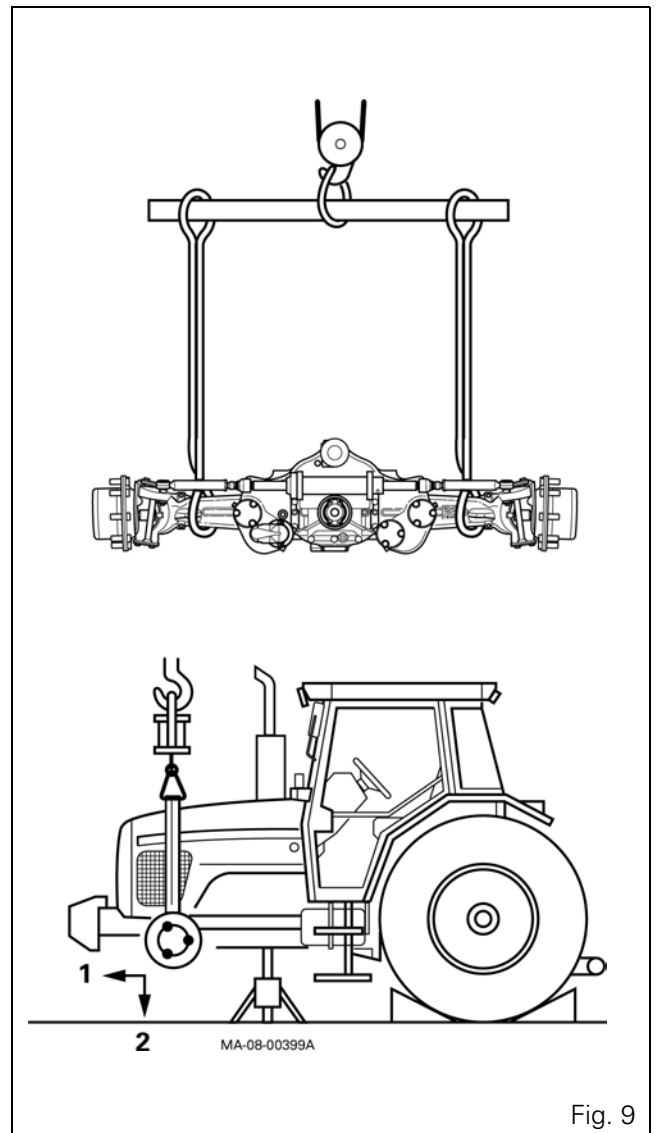

Fig. 9
25. Remove the front weights (if fitted). Immobilise the tractor. Apply the handbrake. Place safety chocks on either side of the rear wheels as shown in Fig. 9.
- 37.** Sling the front axle using suitable straps (Fig. 9).
- 39.** Pull the front axle assembly complete with bearing support (2) forwards along the axis of the axle beam (position 1) and remove the front axle (position 2) (Fig. 9).
- 43.** Sling the front axle (Fig. 9). Moderately grease the ends of the pivot pin and mount the support (2) at the front of the pivot pin (Fig. 3).